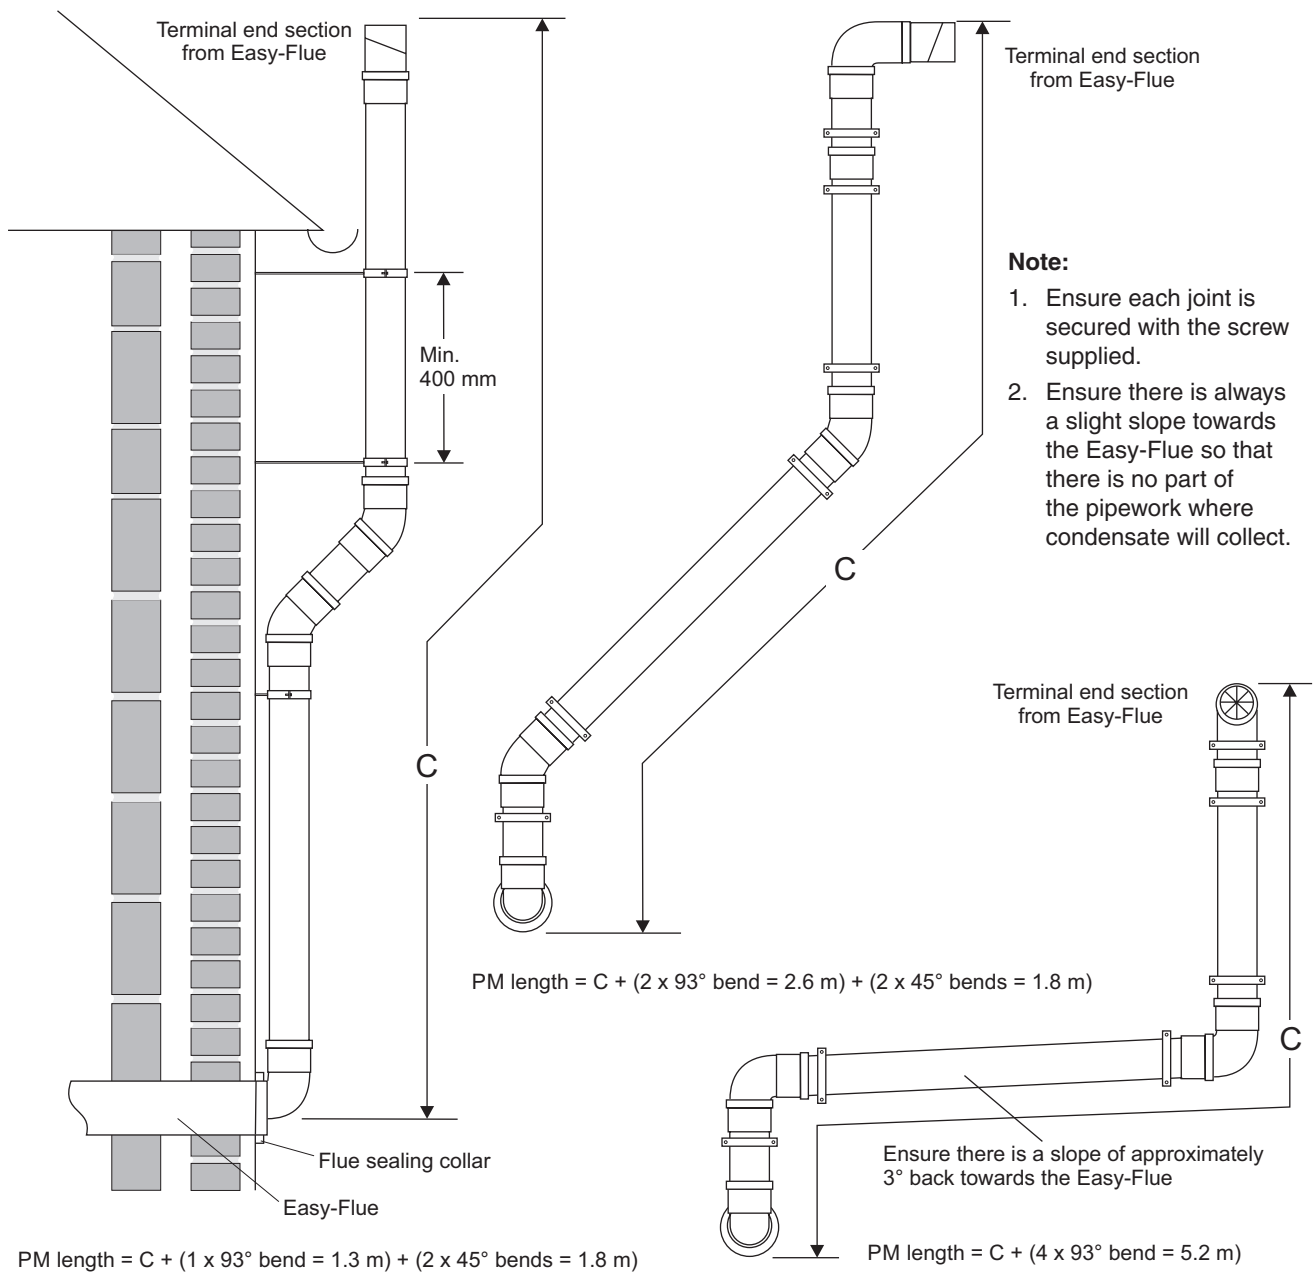

Fig. 9
- Connect to the 93° bend the required Plume Management components as detailed and refer to Fig. 9.
- iv. Terminate the Plume Management pipework by fitting the terminal end section (push-fit) previously removed. Refer to Fig. 9.